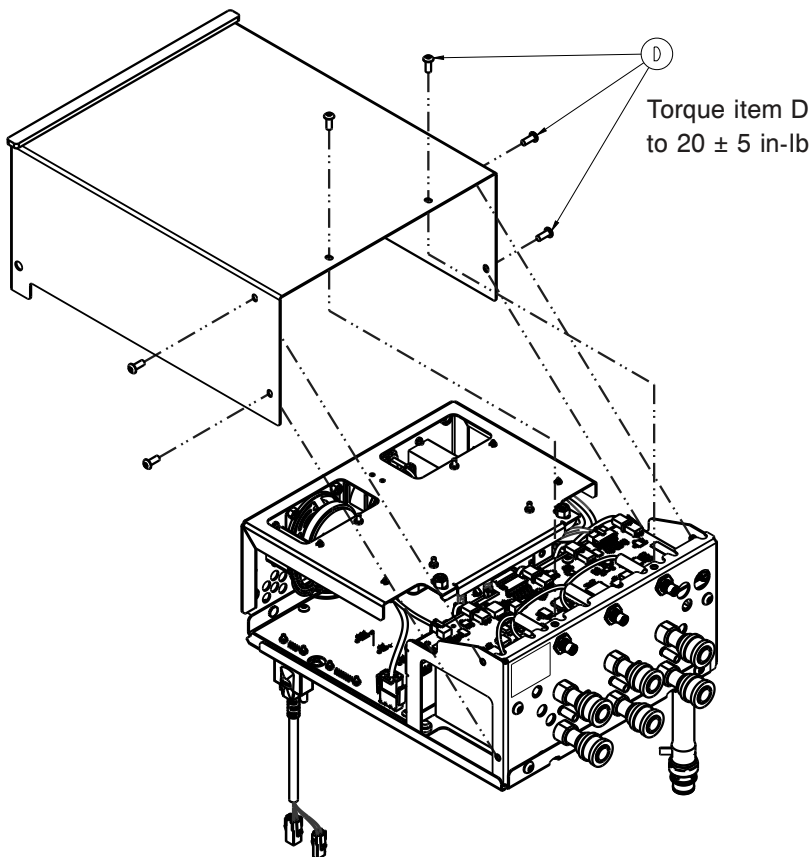

Figure 27 – Control box cover
6. Using a T25 Torx driver, remove the six screws (D) from the control box cover (Figure 27). Save the screws.